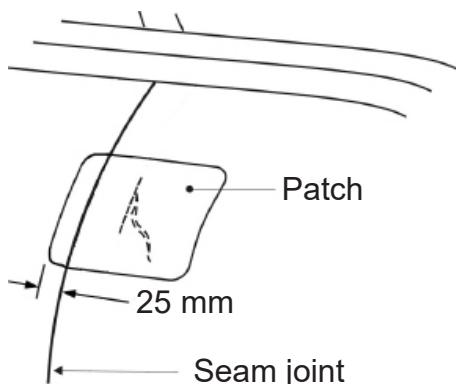

FIGURE 603
- (f) If damage is along the edge of a seam then the patch must extend across the central seam joint by a minimal 25 mm (1"). Refer to FIGURE 603.